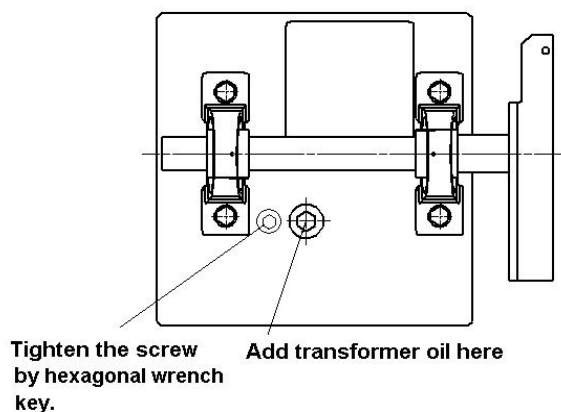

Fig.11
- If the bar has become very slow when opening or closing, and even can not stop at its fully opened or closed position, tighten the screw by 5mm hexagonal wrench key. See Fig.11
- Please check and add transformer oil (DB25-GB2536) regularly, please change the oil according to the weather. See Fig.11 and Table 4